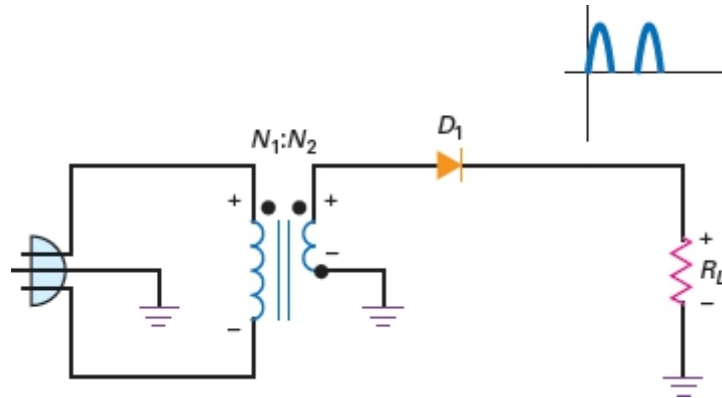

Figure-41 Equivalent circuit for positive half-cycle
- Figure-41 shows the equivalent circuit for the positive half-cycle. As you see, D1 is forward biased. This produces a positive load voltage as indicated by the plus-minus polarity across the load resistor.